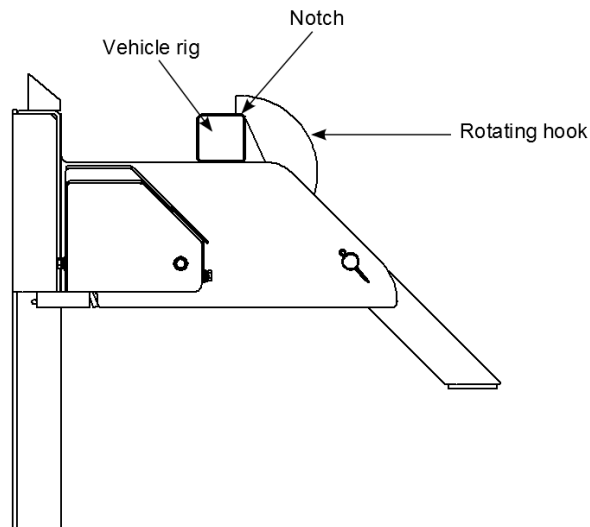

Figure 2: Properly secured
2. Inspect the truck restraint to ensure proper engagement. The notch on top of the hook must wrap over the vehicle’s RIG. See **Figure 2**. If you secure the vehicle properly, the inside control box light will turn green and outside traffic light will turn red.